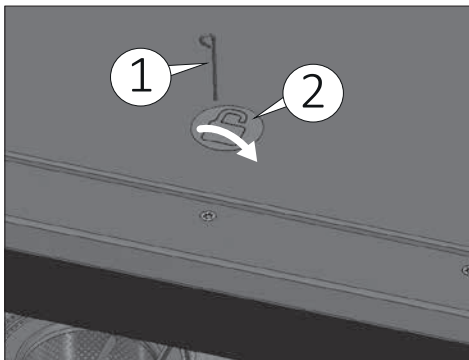

Fig. 12
- 1) Push the key supplied in the pack vertically into the hole on the worktop of the machine (1 Fig. 12), to position the key correctly, follow the position indicated by the padlock hole on the sticker (2 Fig. 12).